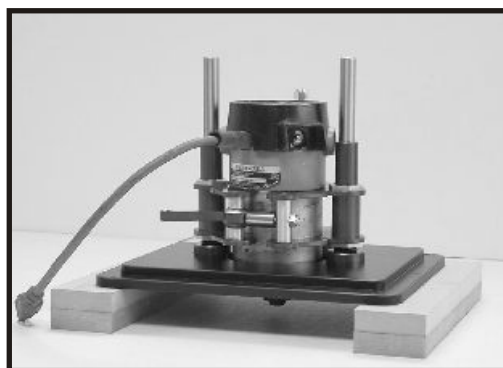

FIG. 1
2. Before installing the router motor, prop the unit up on blocks of wood (Fig. 1) so the router's collet can extend through the centerhole in the top plate. The motor housing must slide all the way through and contact the inside back of the centerhole on the plate.